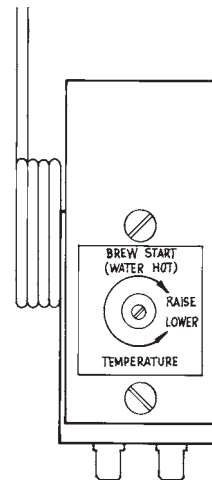

Figure 7
**Optional Brew Thermostat Adjustment:** Your brewer may include the optional low temp/no brew thermostat, (see Figure 7). This will not allow a brew unless the water is up to temperature. The factory setting is 192°F. If you wish to adjust this, do the following: